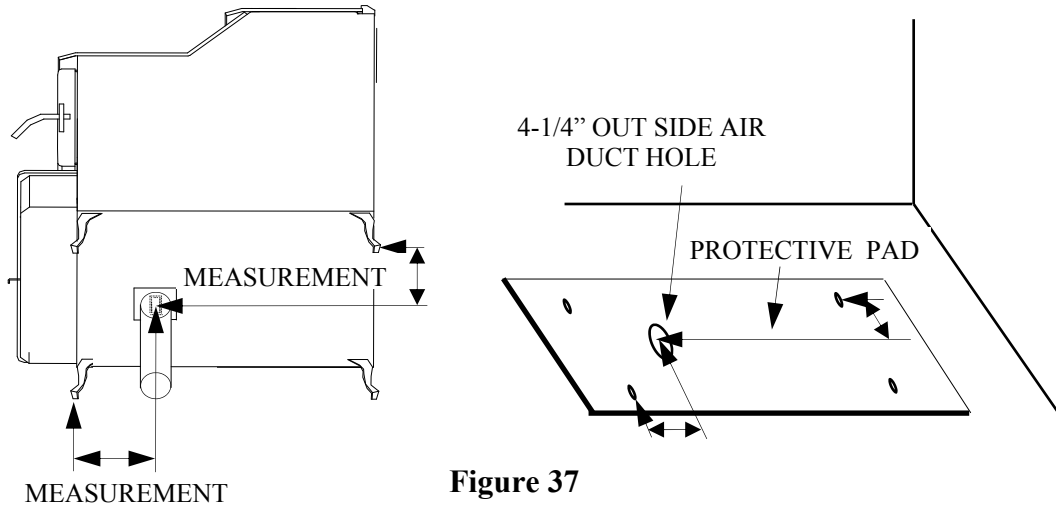

Figure 37
5. Obtain the outside air duct from the box, Part# PH 141434TEK Measure from center of front feet back to center of air inlet, and from center of side legs to center of air inlet, Use these measurements to center and mark the placement of the out side air duct. Predrill (4) 1/8" holes into the bottom of the heater to attach outside air duct to the heater with screws provided, attach, test fit, and temporally leave the outside air duct on the bottom of the heater.
6. Measure the location of the outside air duct that's temporally attached to heater using the legs feet for reference measuring points to find the center of out side air duct. Use these measurements to mark the center location of the out side air duct onto the protective pad. (see Page 43 Figure 37). **Note:** Be sure to measure one more time for floor joist , and or obstacles beneath floor where hole is to be cut.